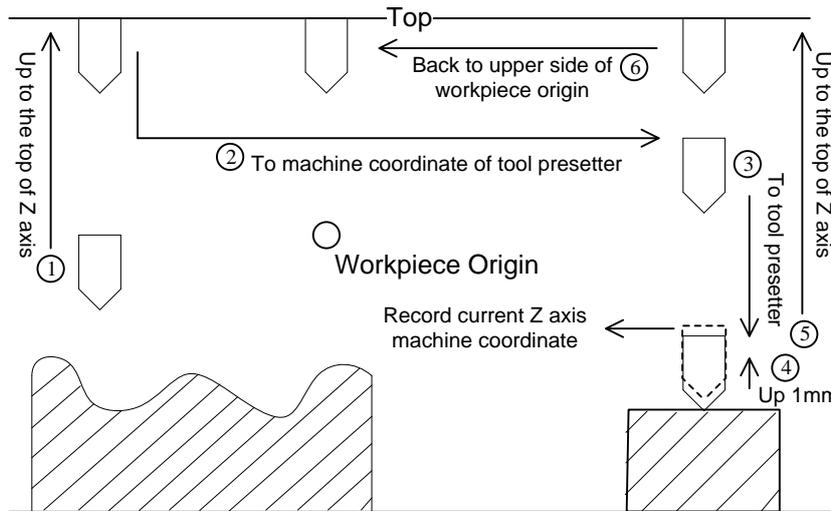

Fig. 3-33 First-time Calibration
- 1) Firstly, manually move Z-axis to workpiece surface, and then confirm workpiece origin by mobile calibration or manual clearing. To clear manually, press key 1 to enter functional area [Advance], and press F4 “Clear Z” in interface 「Coor Manager(1)」.
- 2) Secondly, in interface 「Coor(1)」 under functional area [Machining], press F5 to open dialog box “First Calibration/Calibration after Tool Changed”, and then press F1 to start the calibration. The system will automatically record the current machine coordinate of Z-axis. The process is automatically completed by the system, as shown in Fig. 3-33.